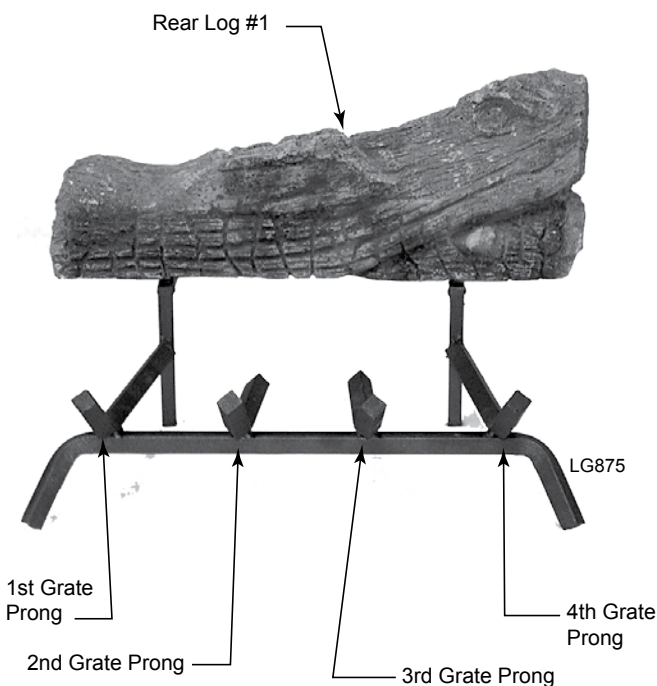

Figure 58 - Place Rear Log
2. Place Rear Log #1 on back of grate. *Figure 58*